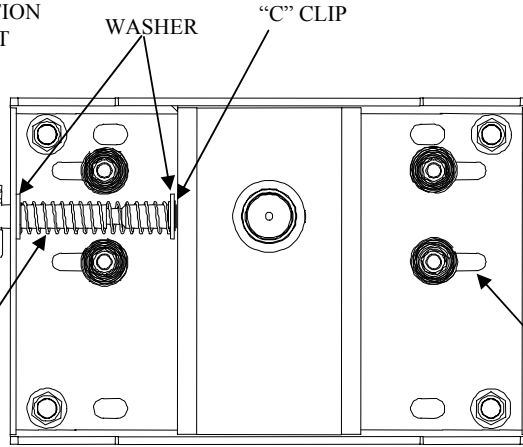

FIGURE 4
- 2A. If handle is to be moved to the other side of the head, pull locking pin spring away from "C" clip and remove clip. The locking pin assembly can now be removed and assembled in the same order on the other side (see figure 4).